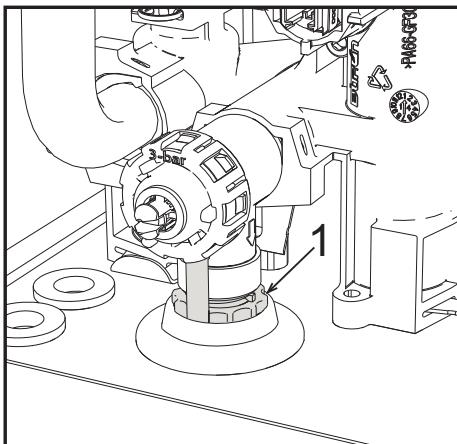

fig. 9- Safety valve with drain faucet
The drain faucet ring nut is located under the safety valve inside the boiler. To drain the system, turn the ring (ref. 1 - fig. 9) counter-clockwise to open the faucet. Do not use any tools; use hands only. To drain only the water in the boiler, first close the shut-off valves between the system and boiler before turning the ring.